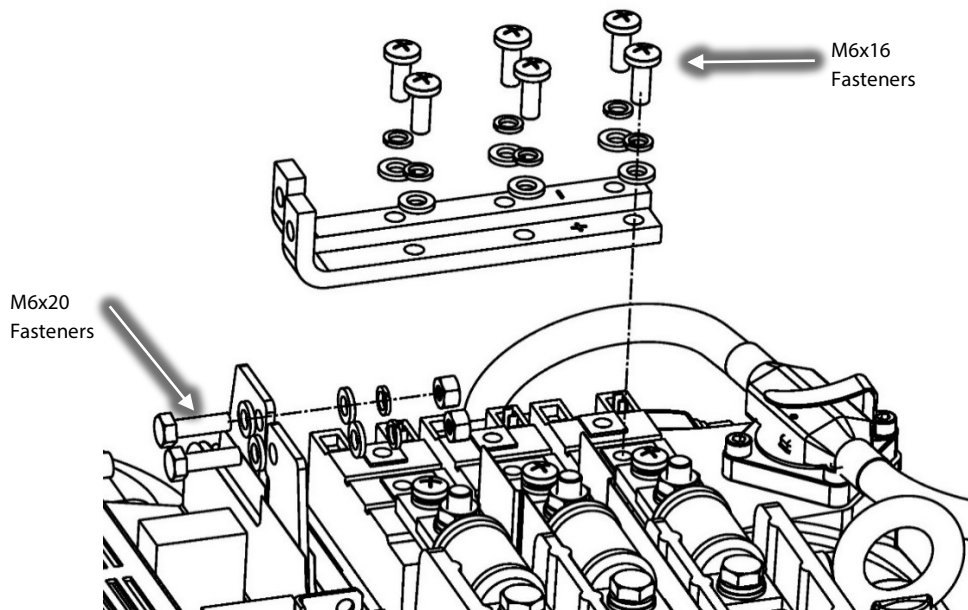

Figure 7 – DC Bus Bar Removal
17. Remove the M6x16 fasteners that secure the DC Bus Bars to the SCRs. Then remove the DC Bus Bars. Refer to Figure 7 (DC Bus Bar Removal).
24. Reconnect the DC Bus Bars to the SCRs and torque to 5 Nm (44 in.lb.). Refer to Figure 7 (DC Bus Bar Removal).
25. Reconnect the DC Bus Bars the DC Bus and torque to specification. Refer to Figure 7 (DC Bus Bar Removal).